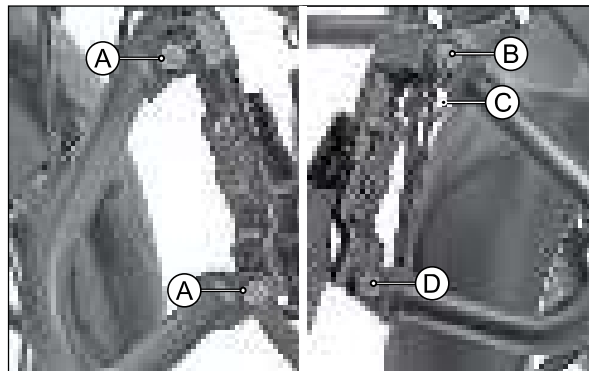

Fig. 3.138
- Remove the hexagonal flange bolt (A) (M8x25 - 2 Nos.) along with spring washer from LH side top and bottom mounting of crash guard. (Fig. 3.138)
- Remove the hexagonal flange bolt (B) (M8x25 - 1 No.) along with spring washer from RH side top mounting of crash guard and dislocate the cable guide (C). (Fig. 3.138)
- Remove the hexagonal flange bolt (D) (M8x25 - 1 No.) along with spring washer from RH side bottom mounting of crash guard and take out the crash guard. (Fig. 3.138)